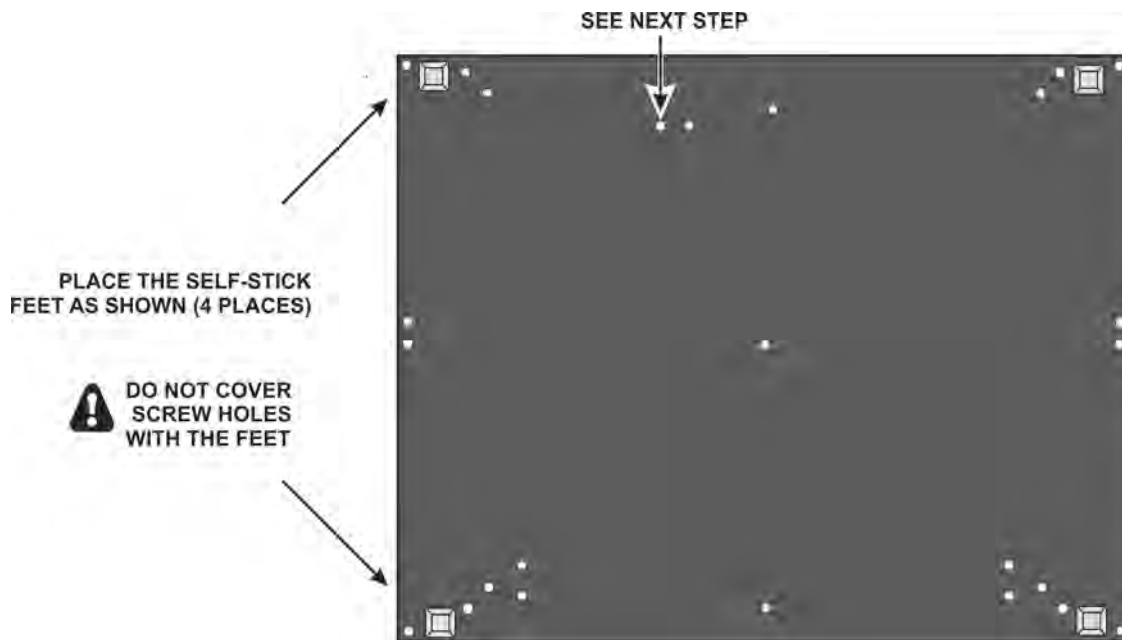
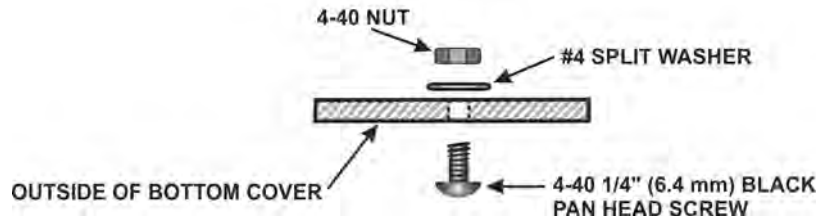

Figure 13. Placing Feet on the Bottom Cover.
Figure 14. Installing Hardware on Bottom Cover.
- ☐ Turn the bottom cover over and place the four self-stick feet on the cover in the locations shown in Figure 13. Do not cover any of the holes in the bottom cover with the feet. The screw hole indicated will be used in the next step.
- ☐ Install a screw, lock washer and nut in the hole indicated in Figure 13 as shown in Figure 14 with the screw head on the outside of the bottom cover. This hole is unused. The hardware is provided to fill it.